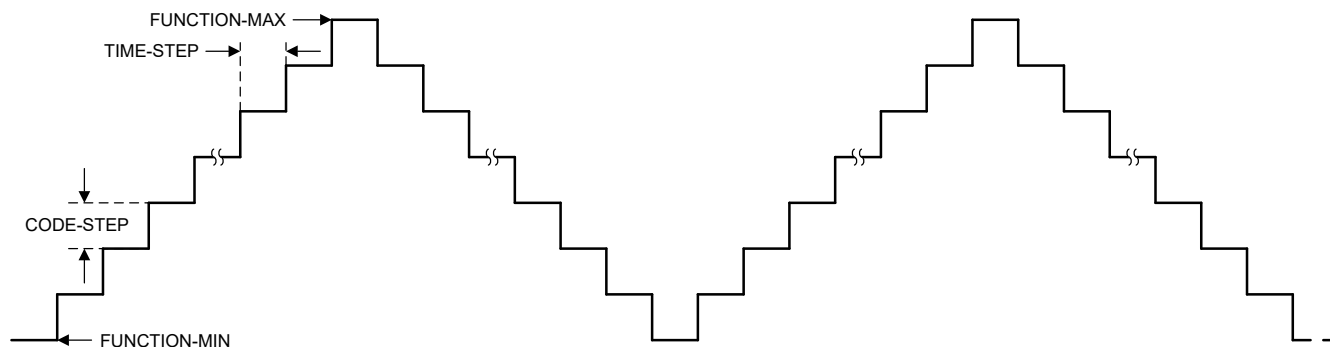

Figure 7-4. Triangle Waveform
Figure 7-4 shows that the triangular waveform uses the FUNCTION-MIN and FUNCTION-MAX registers for minimum and maximum levels, respectively. Equation 4 calculates the frequency of the waveform depending on the minimum and maximum levels, and the CODE-STEP and TIME-STEP settings. An external resistor-capacitor (RC) load with a time-constant greater than the TIME-STEP settings can be dominant over the internal frequency calculation. The CODE-STEP and TIME-STEP settings are available in the FUNCTION-CONFIG register. Write 0b000 to the FUNCTION-SELECT bit field in the FUNCTION-CONFIG register to select the triangular waveform.